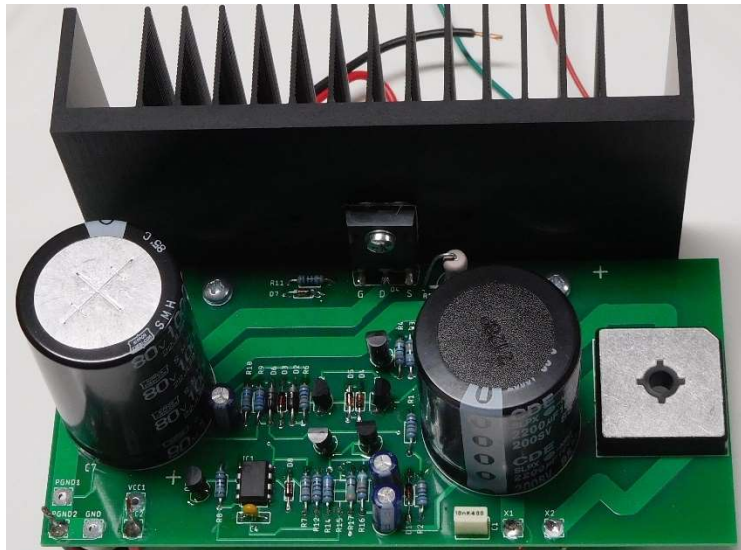

Figure 6-Installing Q4 on the heatsink and to the PCB
Install the bridge rectifier into the power supply PCB as shown on the right side of Figure 6. Make sure that the bridge sits flush to the PCB.
3. Place a thin film of thermal compound on the metal tab surface of Q5 as shown in Figure 5. Inset Q4 into the circuit board as shown in Figure 6. Secure it in place with a #6-32x1/2" screw, just finger tight for now. The side with the thermal compound must attach to the heat sink.